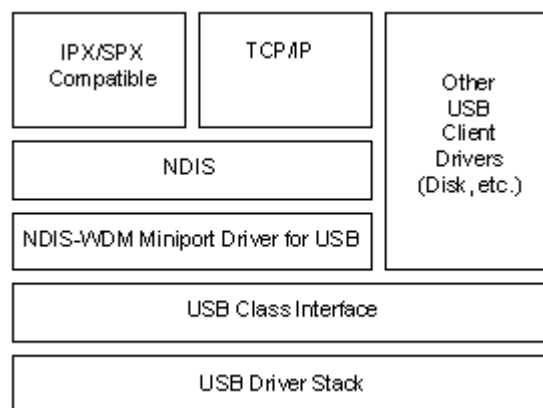

Figure 2-2. Devices attach through USB Network Card
Devices attach through the USB Network card are shown in Figure 2-2.*
* Figures 2-2 and 2-3 are produced by Microsoft.